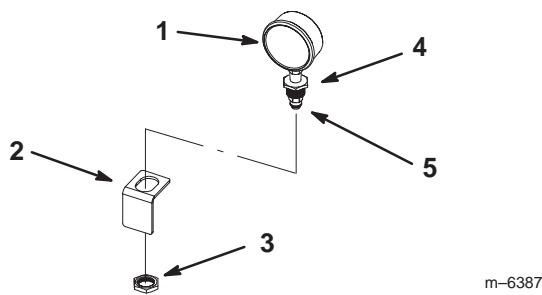

Figure 12
1. Wrap Teflon tape counterclockwise around the threads of the gauge and install the reducer fitting onto the gauge (Fig. 12).
2. Install the black plastic fitting into the reducer fitting on the gauge (Fig. 12).
3. Install the pressure gauge into the bracket under the circular opening inside the control valve cover, securing it with the nut packaged with it (Fig. 12).